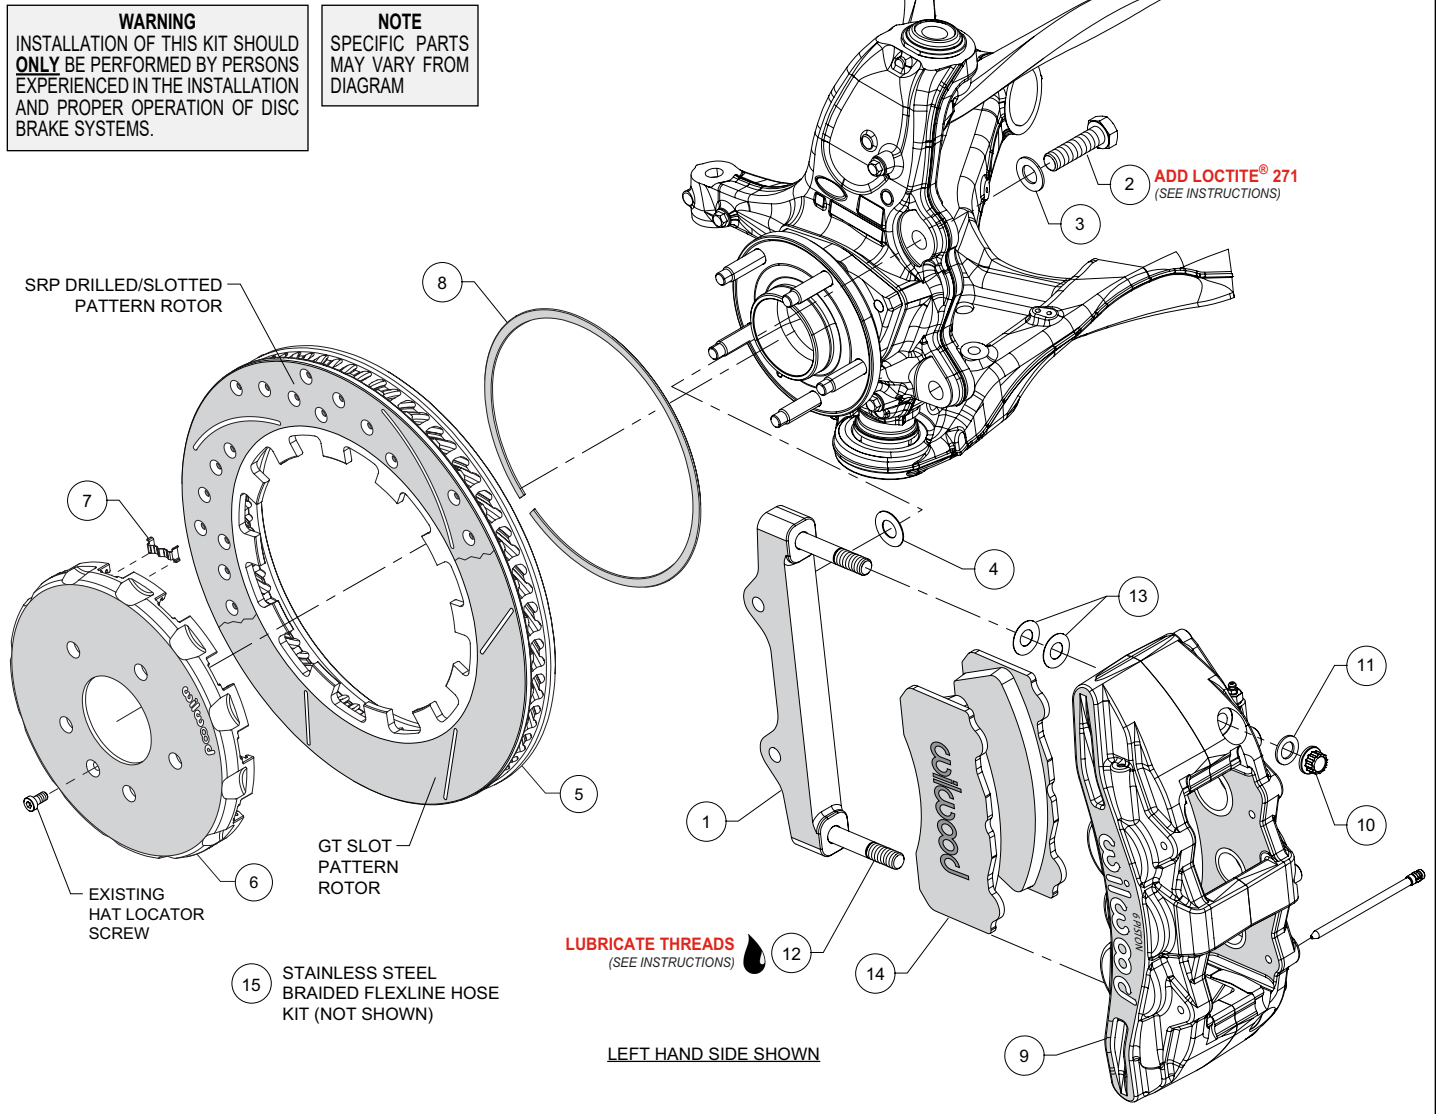

Figure 1. Typical Installation Configuration
**NOTE:** Numbers in parenthesis refer to the parts list and Figure 1 on the preceding pages.
- The caliper mount bracket (1) should initially be installed with clean, dry threads on the mounting bolts. Orient the bracket, as shown in Figure 1 and Photo 1, and install using bolts (2) and washers (3). Initially place one .029" thick shim (4) on each bolt
between the bracket and upright, Figure 1. Temporarily tighten the mounting bolts. **NOTE:** The bracket must fit squarely against the mount bosses on the upright. Inspect for interference from casting irregularities, machining ridges, burrs, etc. Later, after the caliper alignment has been checked, the mount bolts will be secured using red Loctite® 271.
- Insert the dynamic mount wear clips (7) into the slots in the hat (6), Photo 2. Orient the rotor (5) as shown in Figure 1 and Photo 3, with the flush side of mount lugs facing the hat. Secure the rotor to the hat using the snap ring (8) by simultaneously pushing down on the rotor and installing the ring into the groove in the hat, as shown in Photo 4. Carefully inspect snap ring to ensure complete engagement in the groove.
- Slide the hat/rotor assembly onto the axle hub, Photo 5. **NOTE:** The hat must fit flush against the axle hub flange or excessive rotor run out may result. Install the hat locator screw (OEM), as shown in Figure 1, to keep the hat/rotor assembly in place while continuing with the installation.
- NOTE:** This kit contains distinct right and left hand calipers that must be mounted in a specific direction, as described below. Lubricate the caliper mounting studs (12) with lightweight oil. Initially place two .015" thick shims (13) on each stud between the caliper and the bracket, as shown in Figure 1 and Photo 6. Mount the caliper (9) onto the bracket (1) using lock nuts (10) and washers (11), Figure 1. Temporarily tighten the lock nuts. Ensure that the caliper is mounted so the largest pistons are at the rotor exit end of the caliper, in relation to the forward direction of the rotor. View the rotor through the top opening of the caliper.
- Remove the two pad retaining pins from the caliper (9) by pushing out the pins from the tapered end using a blunt instrument. Insert the brake pads (14) into the caliper from the bottom, Figure 1 and Photo 8. With the friction material facing the rotor, secure the